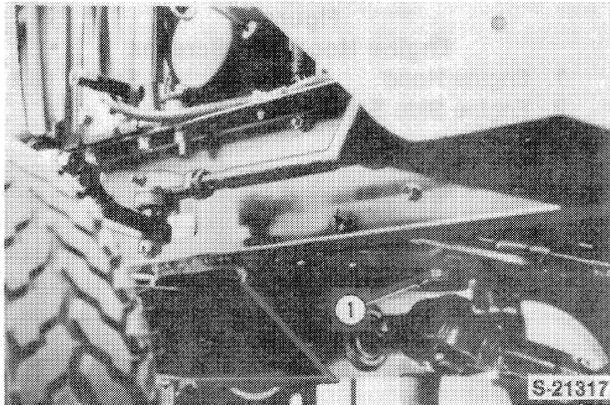

Figure 7
6. Drain the engine crankcase oil, Figure 7.